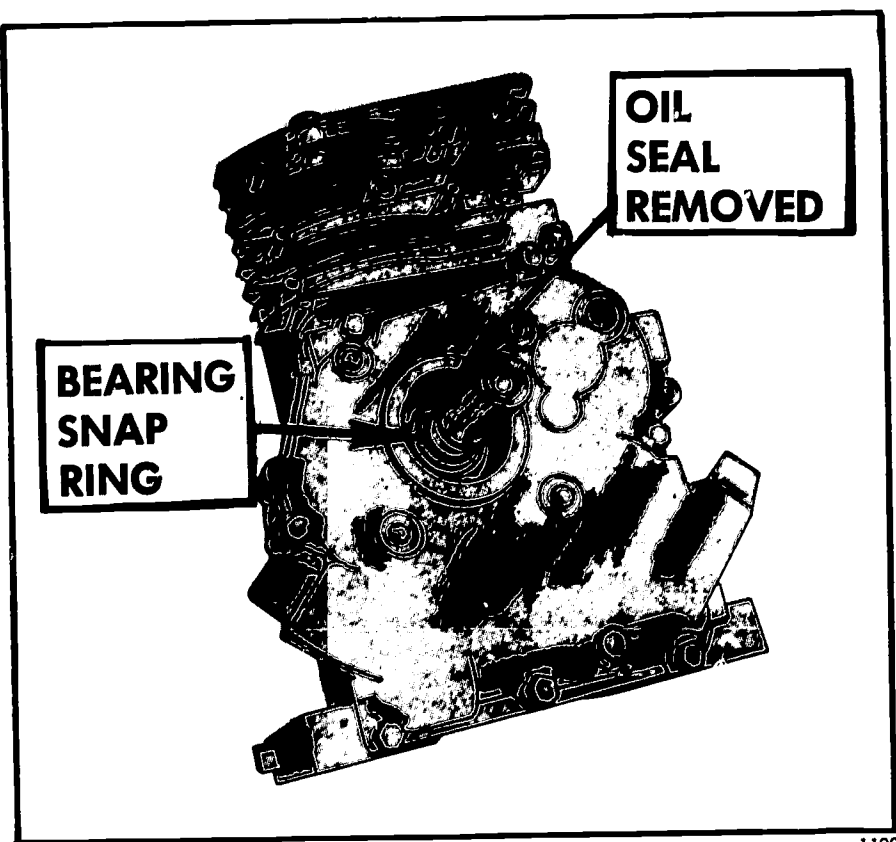

FIGURE 327. A crankshaft-bearing lock ring is installed on some engines.
13. Install crankshaft-bearing lock ring, if applicable (Figure 327).